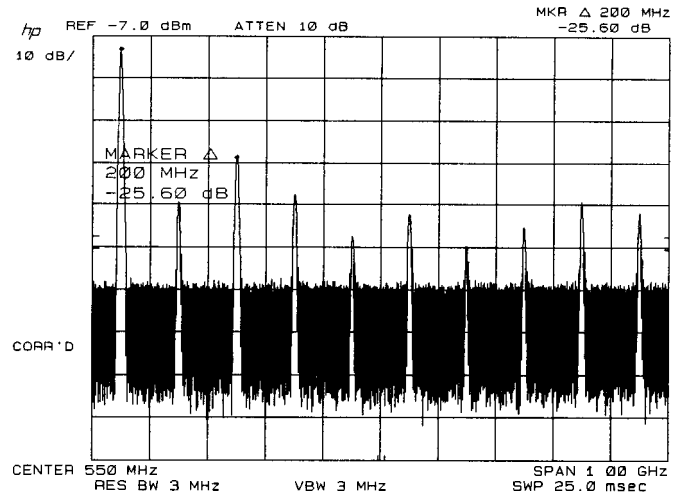

Figure 3-86. CAL OUTPUT Harmonics
10. On the second spectrum analyzer, press **MARKER** [PEAK SEARCH], [al] to position a marker on the peak of the displayed 100 MHz signal. Then, press the **⇧** key (or turn the DATA knob) to position the second marker on the peak of each displayed harmonic of the 100 MHz signal in succession, and verify that the level of each harmonic is greater than 25 dB down relative to the peak of the 100 MHz CAL OUTPUT signal. See Figure 3-86.